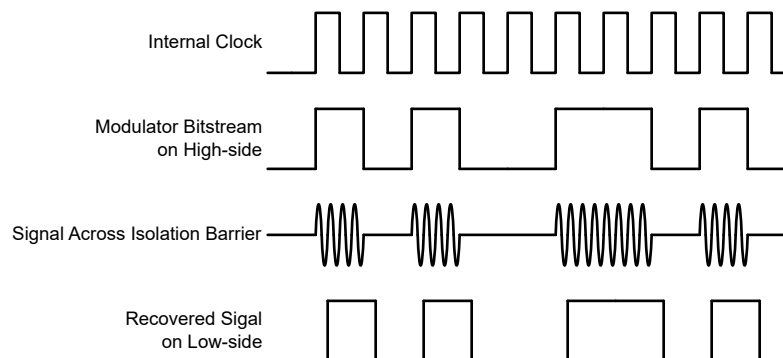

Figure 7-1. OOK-Based Modulation Scheme
The AMC0x11S uses an on-off keying (OOK) modulation scheme, as shown in Figure 7-1, to transmit the modulator output bitstream across the SiO₂-based isolation barrier. The transmit driver (TX) as illustrated in the Functional Block Diagram transmits an internally generated, high-frequency carrier across the isolation barrier to represent a digital *one*. However, TX does not send a signal to represent a digital *zero*. The nominal frequency of the carrier used inside the AMC0x11S is 480MHz.